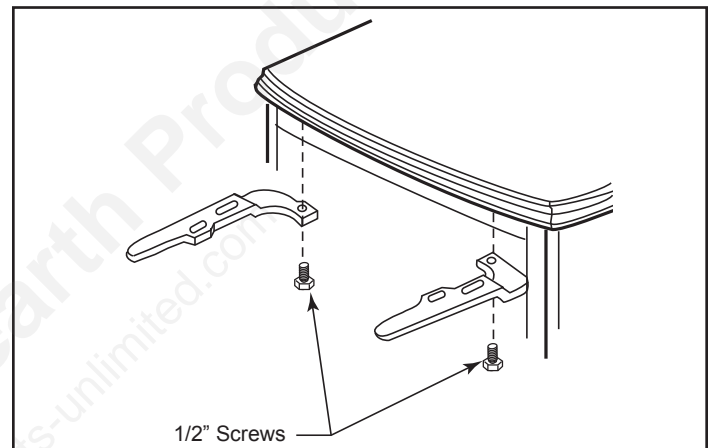

Figure 2 - Attach brackets to threaded holes in top plate.
1. Screw the flat brackets to the stove. Pass a 1/4"-20 x 1/2" hex-head cap screw up through each bracket and into the threaded hole in the stove's top plate. (Figure 2) Tighten the screws enough to secure the brackets, but keep them loose enough for the brackets to move slightly.